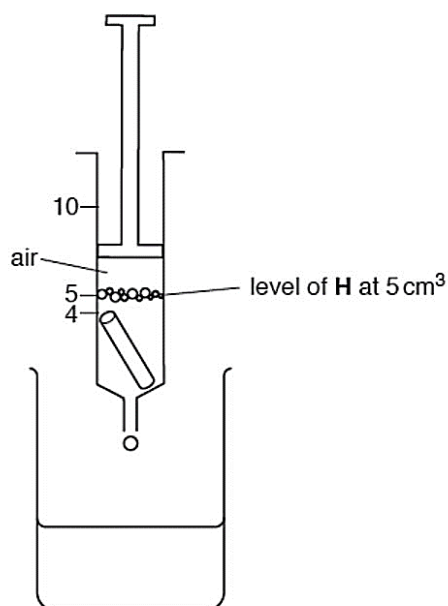

Fig. 1.4
- 10 Hold the syringe above the vial containing **H** and push the plunger to adjust the level of **H** to the 5 cm³ mark in the syringe, as shown in Fig. 1.4.